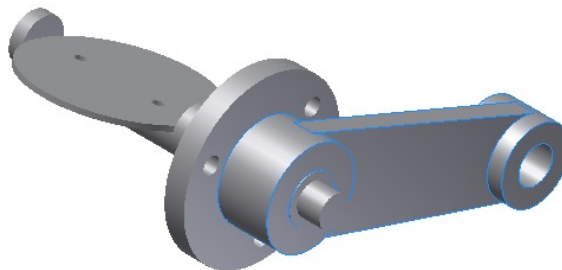

Figure 9-74 *Assembly after assembling the Plate*
12. Select the other hole on the flat face of the Shaft to apply the constraint. Choose the **Apply** button to apply the constraint and then choose the **Cancel** button to exit the dialog box. The assembly after assembling the Plate is shown in Figure 9-74.